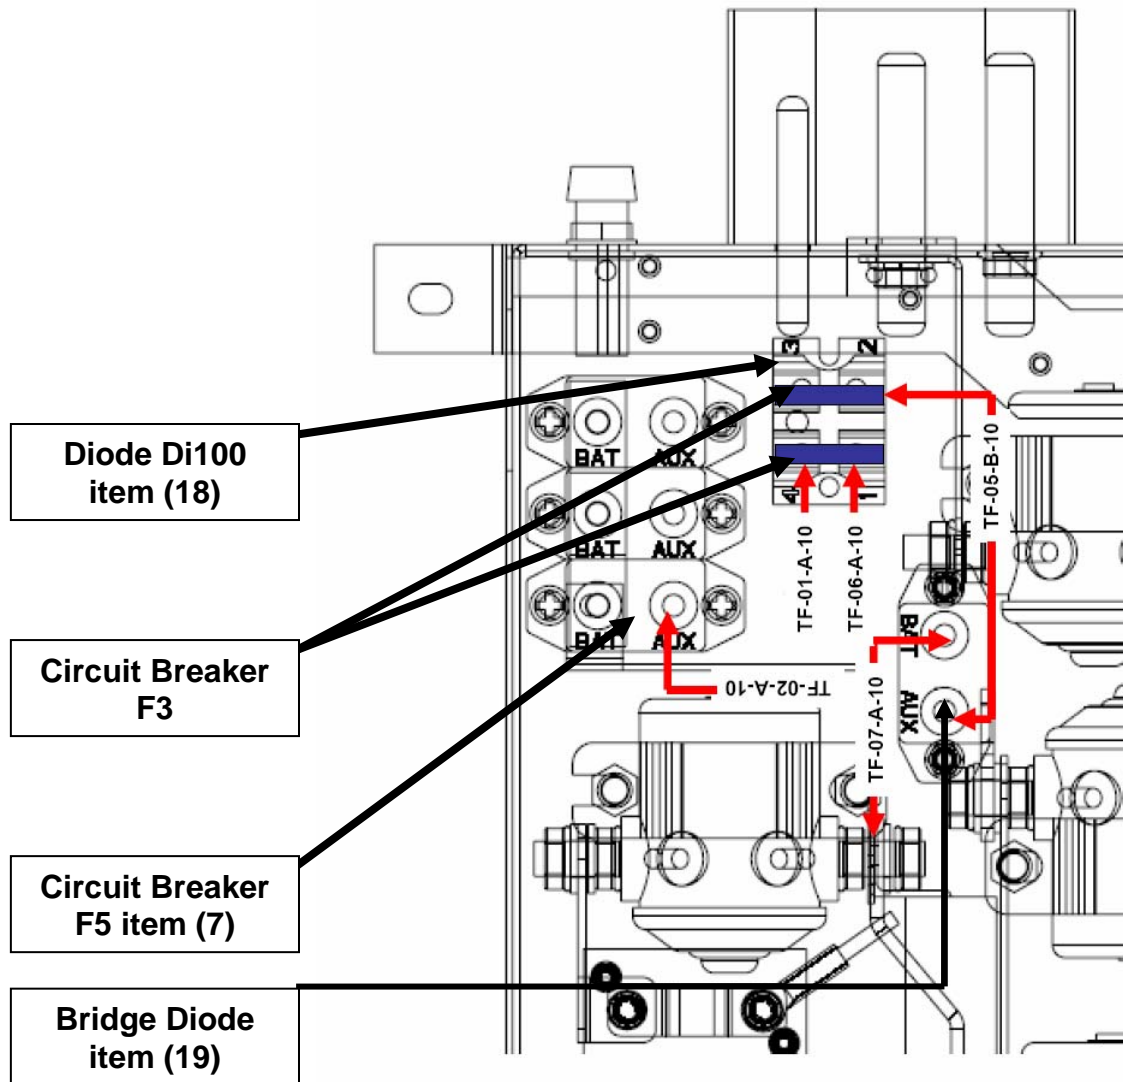

Figure 6 Power Junction Box (Cessna 172 R,S) after modification
7. Modification of Power Junction Box (see figure 6) Cessna 172 Models R and S
- Install new diode (18) beneath the external power plug.
- Fasten diode with two screws (8), two washers (9) and two nuts (10).
- CAUTION: Washers (9) need to be positioned underneath the nuts (10)!
- Position circuit breaker F5 (7) above the battery relay.
- Install circuit breaker with two screws (8), two washers (9) and two nuts (10).